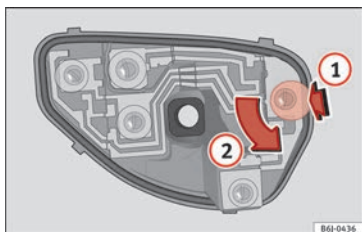

Fig. 99 Changing the tail light bulbs
- When the bulb holder has been removed, press in the direction of the arrow (1) and at the same time, turn in the direction of the arrow (2) » Fig. 99